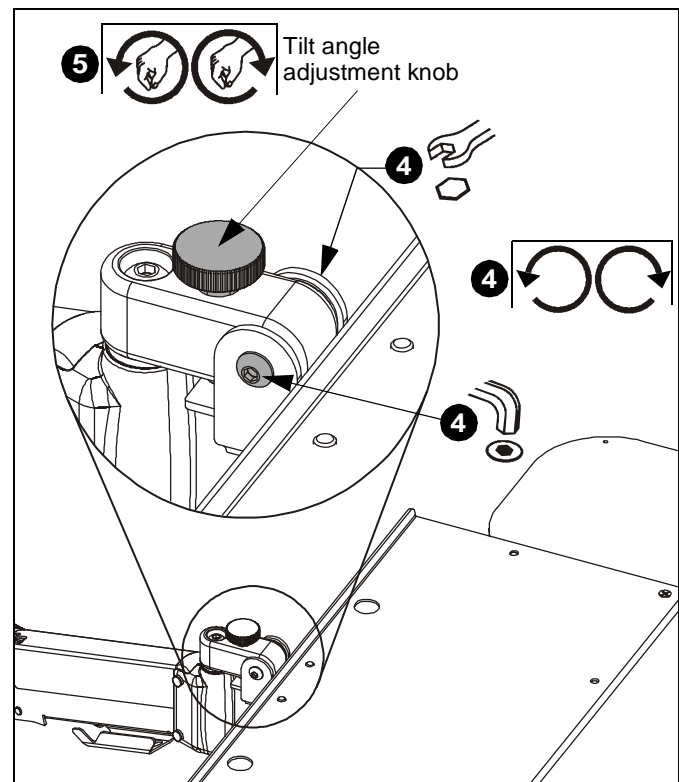

Figure 49
4. Adjust tray tension using a 7/16" wrench and a 5/32" (AA) hex key. (See Figure 49)
5. Adjust the tilt angle adjustment knob as necessary to set tilt angle of keyboard tray. (See Figure 49)